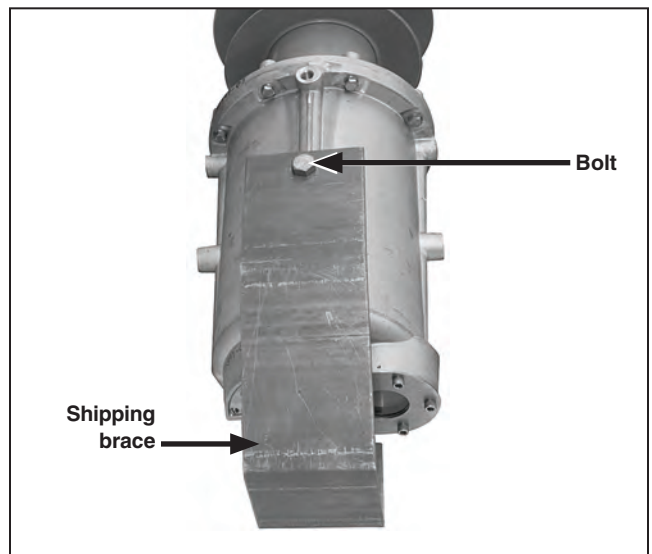

Figure 12. Unbolt the shipping brace.
**STEP 3.** Remove the shipping brace from the interrupter base. See Figure 12.